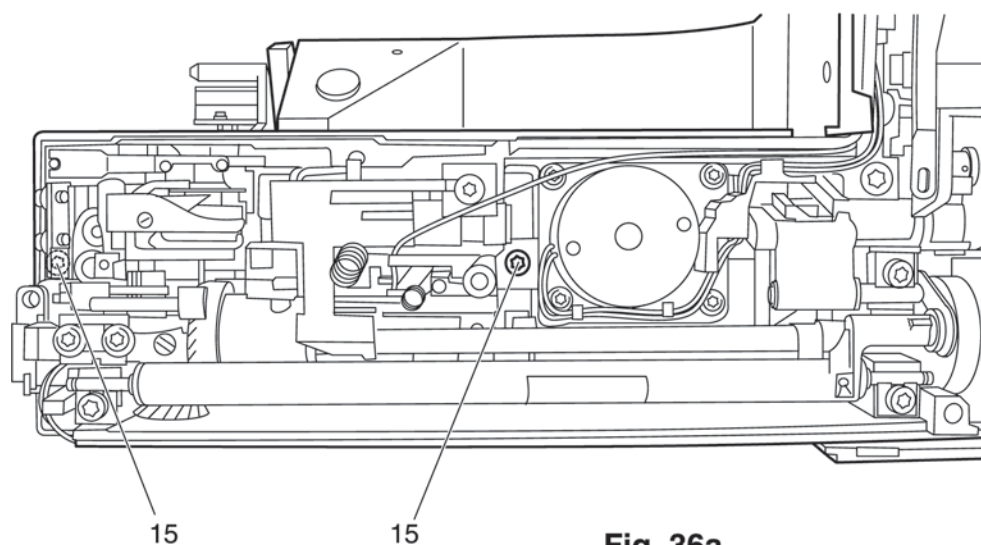

Fig. 36a
- Insert and tighten both screws 15 (fig. 36a).